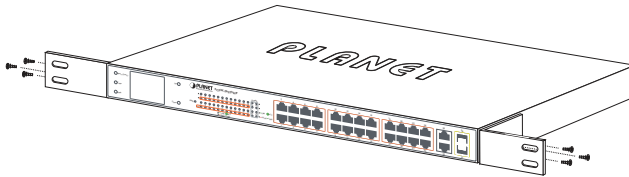

Figure 3-2: Attaching the Brackets to the 802.3at PoE+ Switch.
**Step 2:** Attach a rack-mount bracket to each side of the 802.3at PoE+ Switch with supplied screws attached to the package. Figure 3-2 shows how to attach brackets to one side of the 802.3at PoE+ Switch.